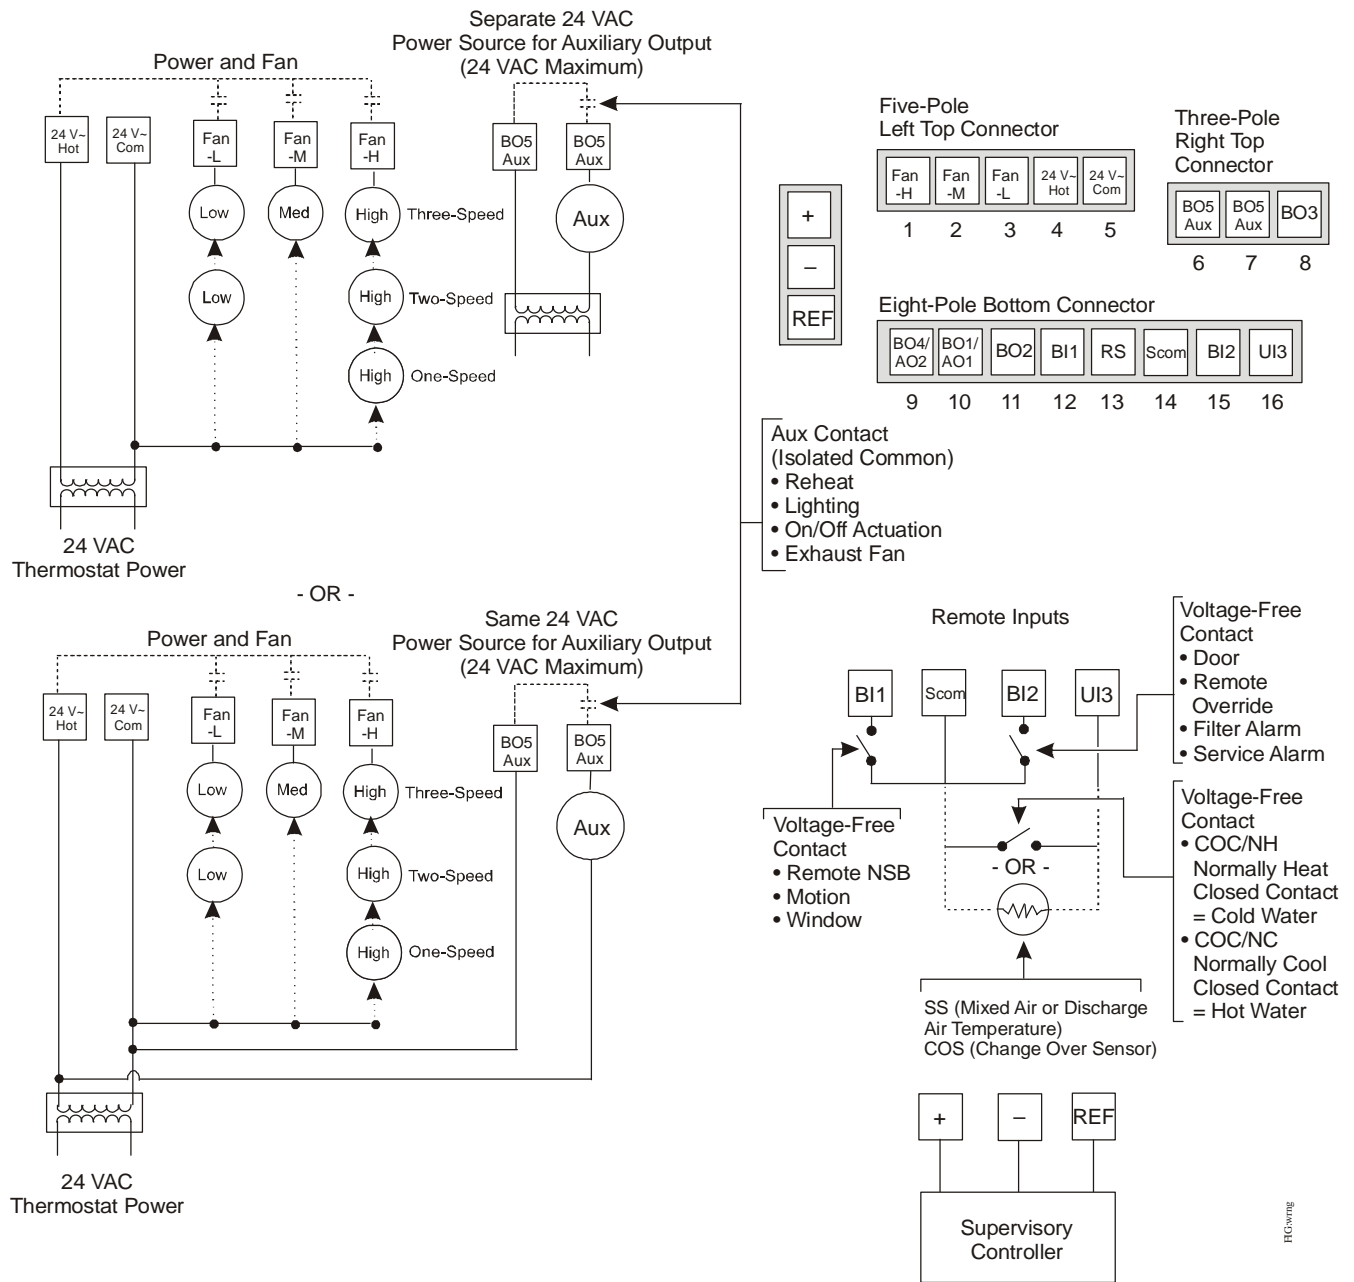
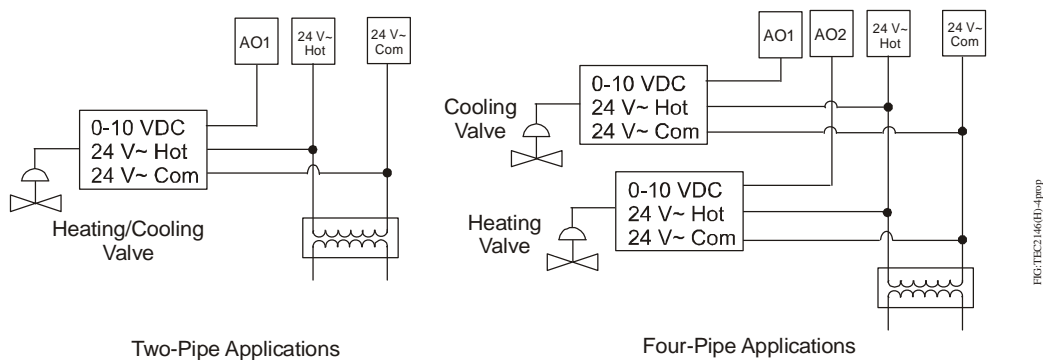

Figure 5: Wiring the TEC21x6(H)-4 or TEC21x6H-4+PIR Series Thermostat Controller (See Table 1.)
Figure 9: Wiring TEC2146(H)-4 and TEC2156(H)-4 Thermostat Controllers for Proportional Control
- Strip the ends of each wire 1/4 in. (6 mm) and connect them to the appropriate screw terminals as indicated in Table 1, and Figure 5 through Figure 9.
Table 1: Terminal Identification (See Figure 5.)